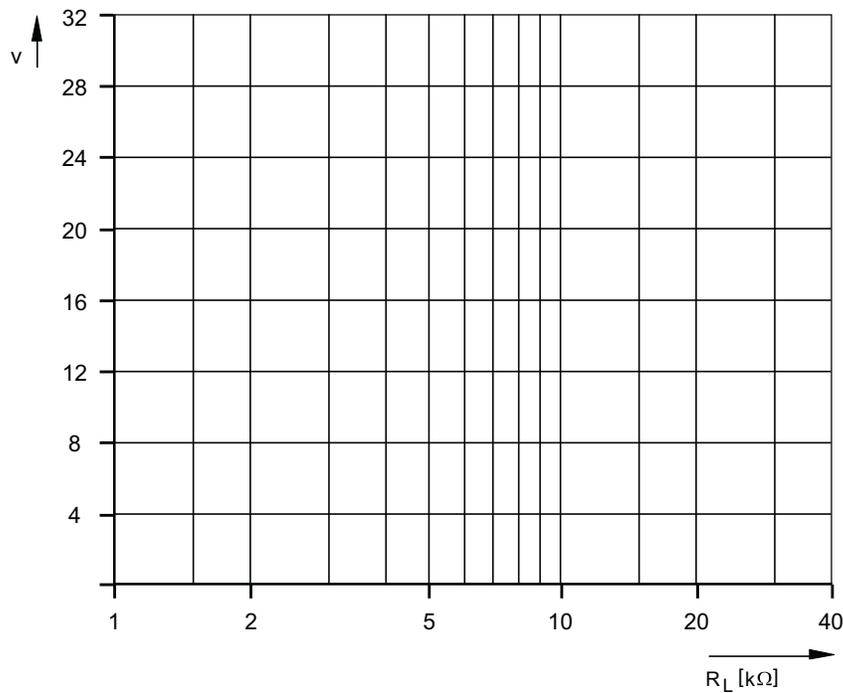

Fig. 5.4.2.4
- On the diagram (Fig. 5.4.2.4), plot a graph showing the dependence of the voltage gain  $v$  on the load resistance  $R_L$ .
- On the diagram (Fig. 5.4.2.2), draw in the load resistance line for  $R_L = 2$  k $\Omega$ .
**Question 2:** How large is the gain factor  $v$  when  $U_{in} = -1\text{ V}$   $-(-2\text{ V})$ ? Refer to Fig. 5.4.2.2.